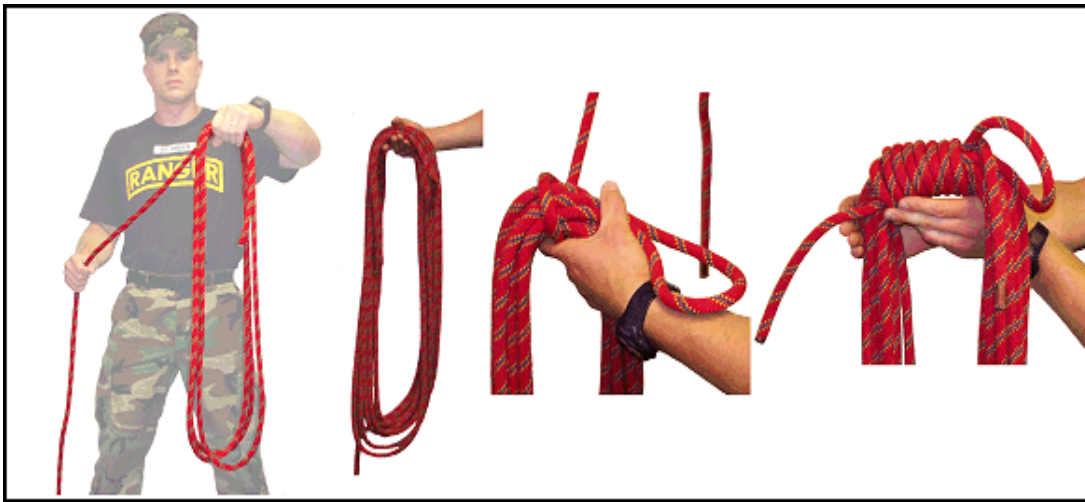

Figure 4-3. Mountain coil.
(1) In finishing the mountain coil, form a bight approximately 30 centimeters long with the starting end of the rope and lay it along the top of the coil. Uncoil the last loop and, using this length of the rope, begin making wraps around the coil and the bight, wrapping toward the closed end of the bight and making the first wrap bind across itself so as to lock it into place. Make six to eight wraps to adequately secure the coil, and then route the end of the rope through the closed end of the bight. Pull the running end of the bight tight, securing the coil.
(2) The mountain coil may be carried either in the pack (by forming a figure eight), doubling it and placing it under the flap, or by placing it over the shoulder and under the opposite arm, slung across the chest. (Figure 4-3 shows how to coil a mountain coil.)